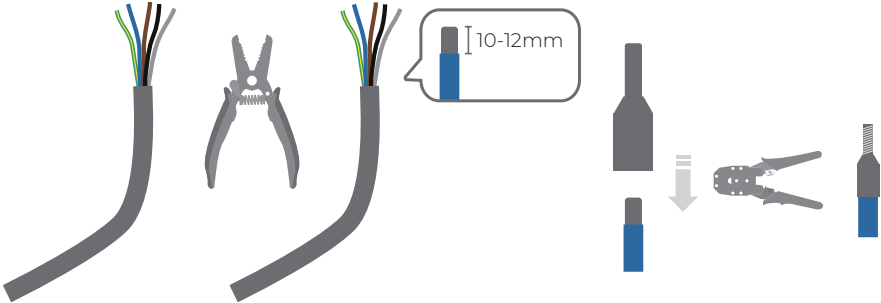

Fig. 5-14
5. Use a wire stripper to remove 10~12 mm of insulation from the prepared power wires, and crimp the exposed wire conductors with the crimping pliers. (See Fig. 5-14)